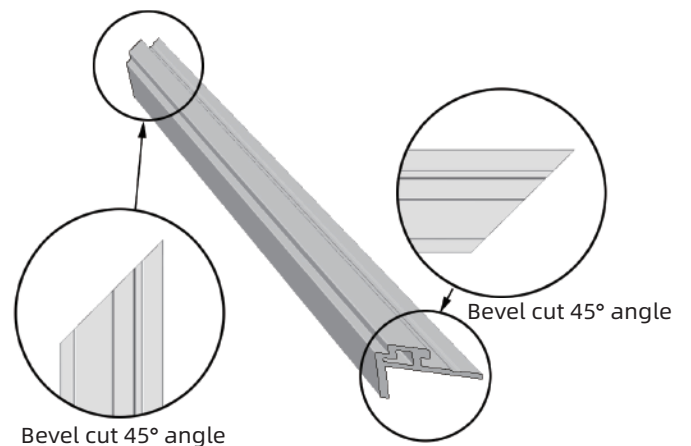

Fig24-1
1. Determine the size and cut HLYC-019F according to the size of the door and window openings. As shown in Figure 24-1